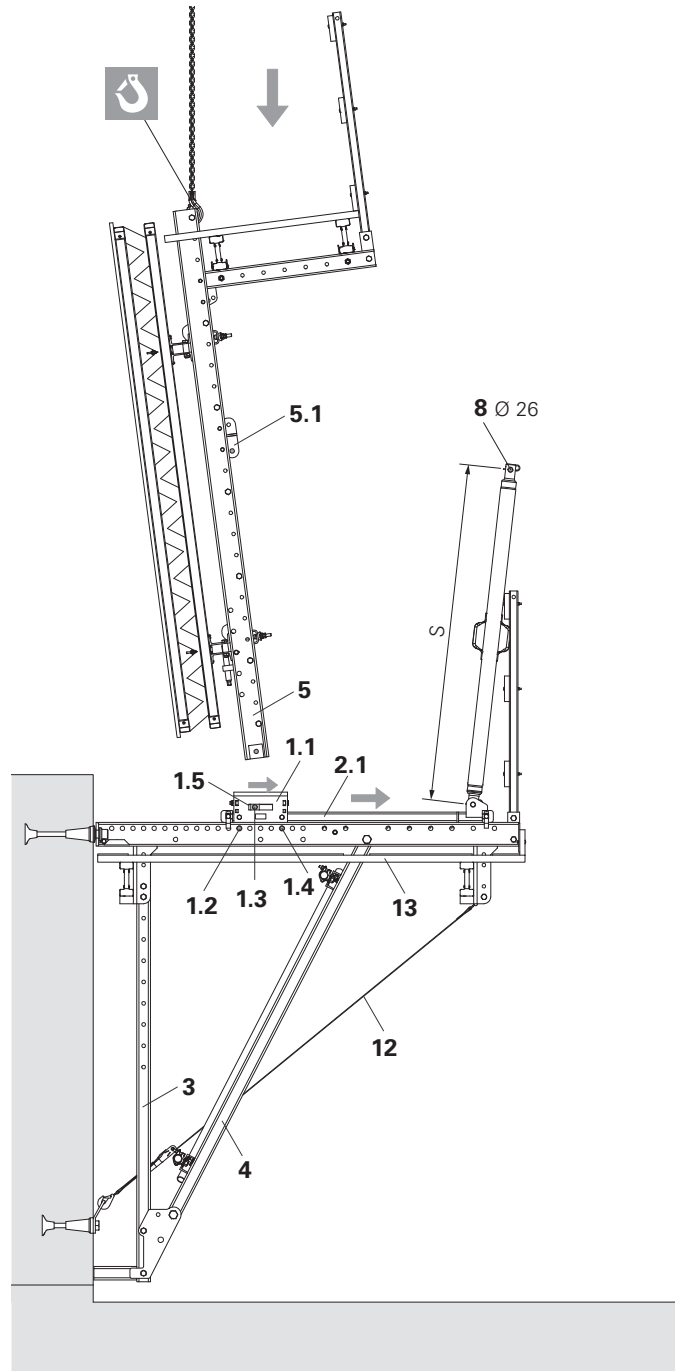

Fig. A3.05
6. Guide Strongback (5) with the crane over the Adjusting Unit (1.1) so that the holes are congruent.
9. Position Heavy Duty Spindle (8) in the Spindle Connector (5.1).
10. Connect Heavy Duty Spindle (8) and Spindle Connector:
12. Align formwork, see A4.1 to A4.5. (Fig. A3.05)